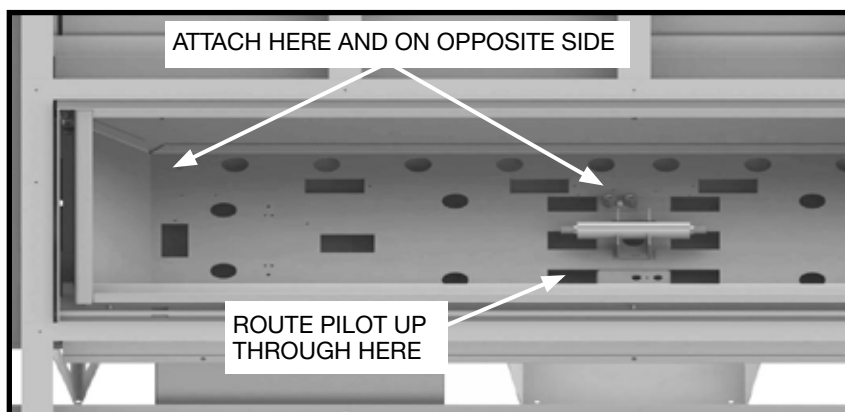
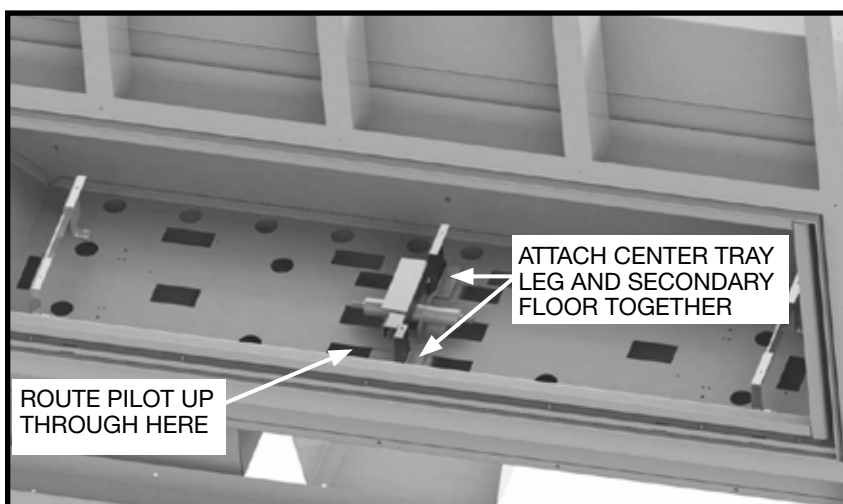

Figure 42: ngo4 Secondary floor installation.
Figure 43: ngo4 Tray leg installation.
1. Install one side of the secondary floor as shown. Repeat with the other side but do not put in the two center screws until you put the center tray leg in place (Figure 42 and Figure 43).
2. Attach tray legs as shown in Figure 43. The center tray leg and the right side of the secondary floor are attached with the same screws to the center floor leg.